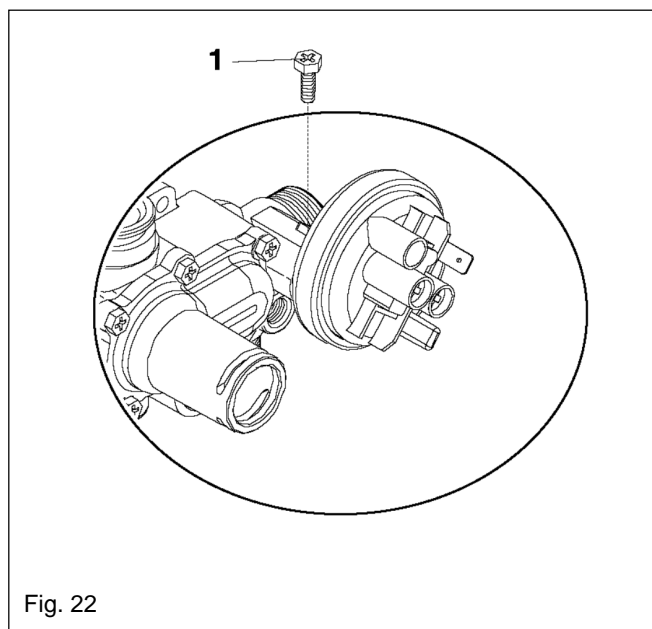

Fig. 22
**6.8 WATER PRESSURE SWITCH (see fig. 22)**